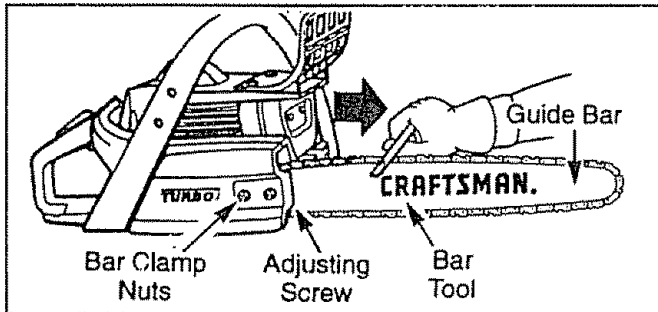

Figure 53
- Use the screwdriver end of the bar tool to move chain around the guide bar (Fig 53).